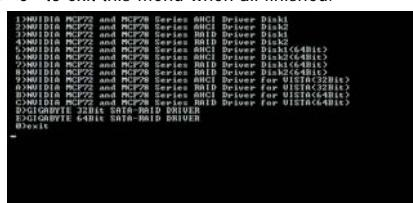

Figure 2
Step 2: When the controller menu (Figure 2) appears, remove the startup disk and insert a blank formatted disk. Select the controller driver by pressing the corresponding letter from the menu. Each item requires one floppy disk. For example, in the menu in Figure 2, to install Windows XP (32-bit) onto your RAID drives, press <3> to select **3)NVIDIA MCP72 and MCP78 Series RAID Driver Disk1** (you can label it as Disk 1). Your system will automatically zip and transfer the driver file to the floppy disk. When finished, insert the other floppy disk and select **4)NVIDIA MCP72 and MCP78 Series RAID Driver Disk2** (you can label it as Disk 2). Be sure to provide both of the two floppy disks for loading the RAID drivers when installing Windows XP (see the next section). Press <O> to exit this menu when all finished.
Use an alternative system and insert the motherboard driver disk. From your optical drive folder, double click the **MENU.exe** file in the **BootDrv** folder (Figure 3). A command prompt window will open similar to that in Figure 2.